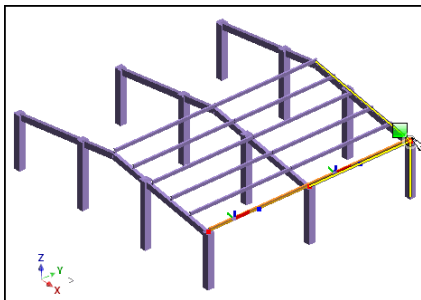

Figure 78: Specifying the first coordinate
- Snap to the end of a beam (notice that a green square appears) and click (Figure 78).